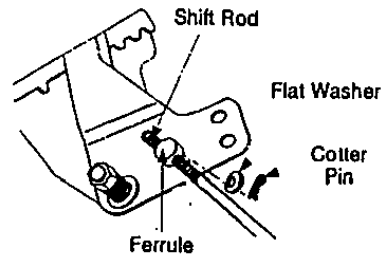

FIGURE 10
- Place the shift lever in the fastest forward position. Push the shift rod down sharply, as far as it will go, to put the drive into the fastest forward position. Thread the ferrule in or out on the shift rod as necessary until the ferrule lines up with the upper hole in the shift lever. Insert ferrule from the right side of the snowthrower into upper hole in shift lever and secure with flat washer and internal cotter pin. See figure 10.